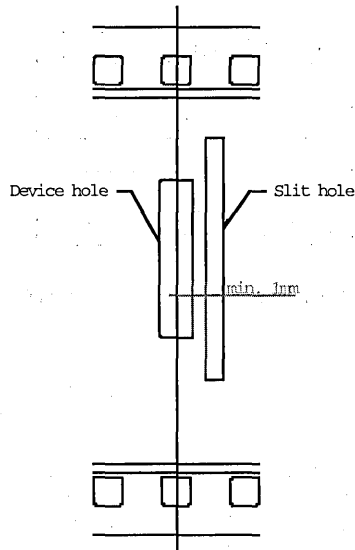

Figure 15. Spacing Requirement for Super Slim TAB Tape
a) At least 1 mm spacing is required between the edge of device hole and the slit hole for input outer lead, Figure 15. It is because enough area for copper pattern adhesion is very important especially in the area between the edge of the device hole and the slit hole so as to prevent copper peel off from the polyimide film. Copper pattern routing path and its width in this area should be maximized so as to achieve this requirement.